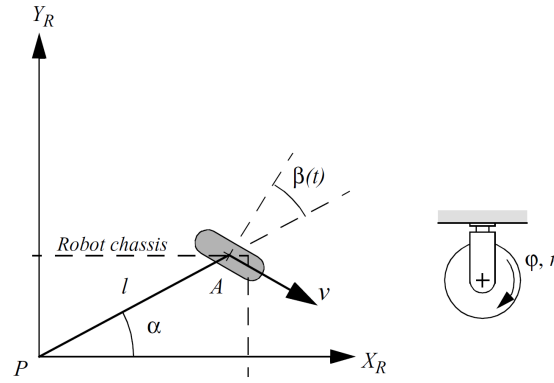

Figure 1: A fixed standard wheel.
- (a) Fig. 1 depicts a fixed standard wheel attached to a wheeled assistive robot.